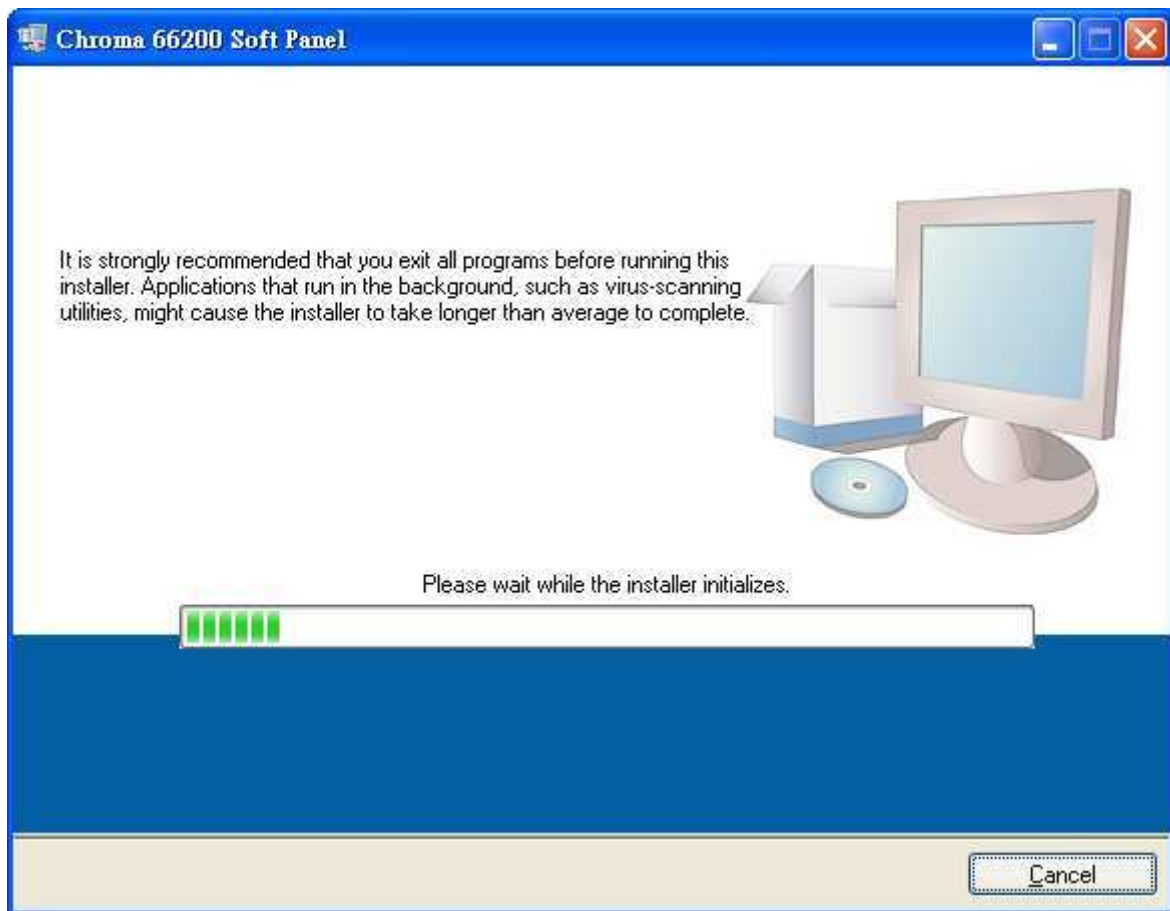

Figure 2-3 Chroma 66200 Soft Panel Installation Screen
2. Click **Chroma 66200 Soft Panel** and it will prompt a window as shown in Figure 2-3.